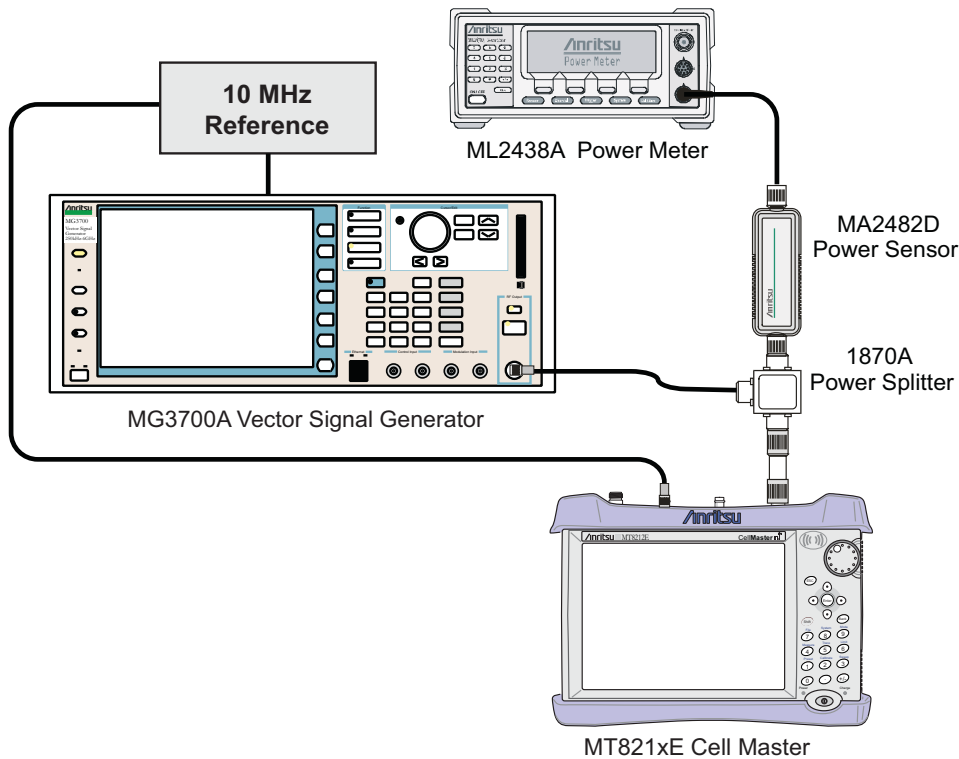

Figure 5-18. DVB-T/H SFN Level Accuracy Setup
2. Connect the MG3700A Signal Generator, Power Splitter, Power Meter, and Power Sensors as shown in Figure 5-18.